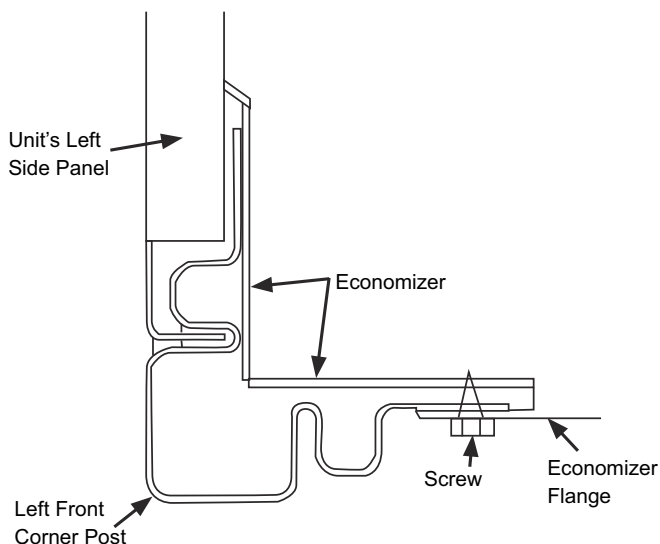

Fig. 5 — Top View
6. Reinstall the left side corner post on to the unit. Note the corner post will sit behind the economizer flange. (See Fig. 5.) Screw through the corner post and through the economizer. (See Fig. 5 and 6.)